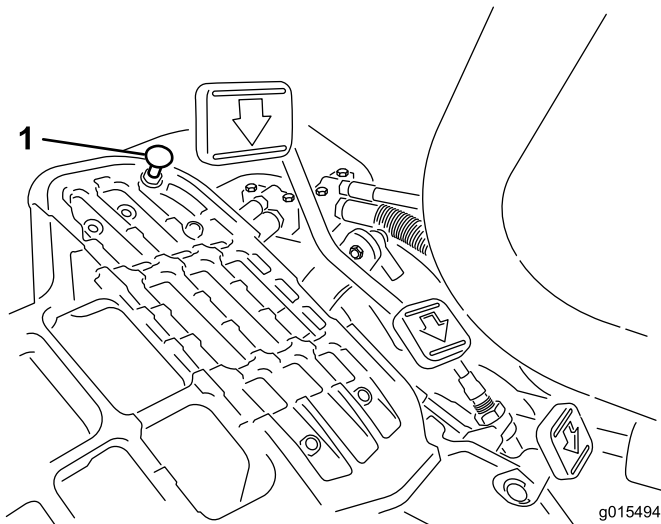

Figure 48
To obtain maximum transport speed, put the functional control lever in the transport position and press down on the traction pedal. If the pedal contacts the stop (Figure 48) before tension is felt on the cable, an adjustment is required:
1. Put the functional control lever in the transport position and loosen the locknut securing the pedal stop to the floor plate (Figure 48).